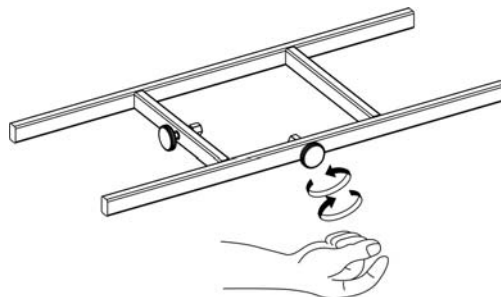

Figure 8
8. Tighten the threaded knobs found on tank tray (Figure 8) so that the LP tank cannot move from side to side. Do not remove plastic cap from end of threaded section.